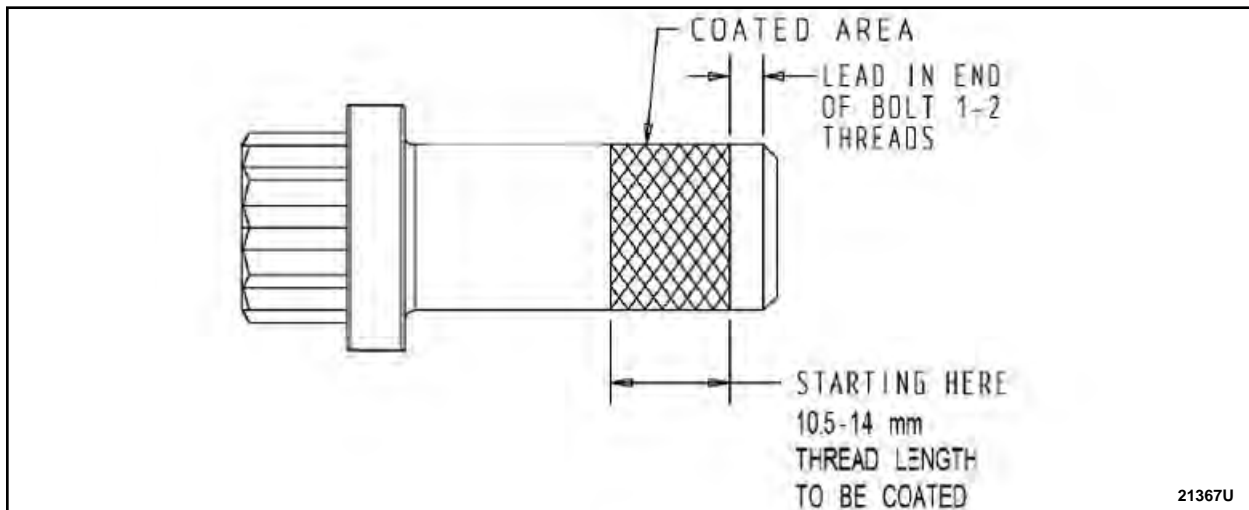

FIGURE 21
25. Inspect the original driveshaft flange to pinion flange bolts for rust in the threads and replace if rusted or damaged. Clean threads of the original driveshaft flange to pinion flange bolts with a wire brush and coat the threads with LOCTITE 243 Blue Medium Strength Threadlocker or equivalent. See Figure 21.